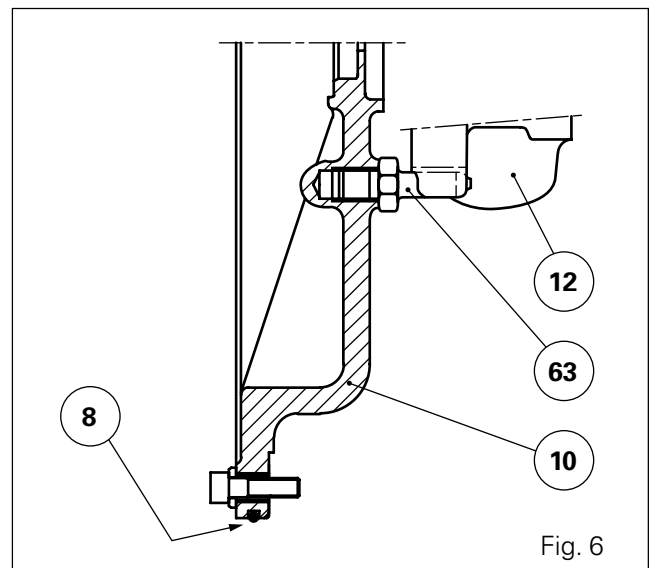

Fig. 6
6. Scrap seal (8) (Fig. 6).
19. Ensure the presence of centring pins on the closure disk, and shims on the clutch assembly. Replace O'rings (8) (Fig. 6).
21. Grease the lip of the seal. Fit the shaft with the protector used during disassembly. Screw two guide studs in opposing locations on the spacer, and reinstall closure disk (10) and finger (63) in the slot in pump body (12) (Fig. 6).